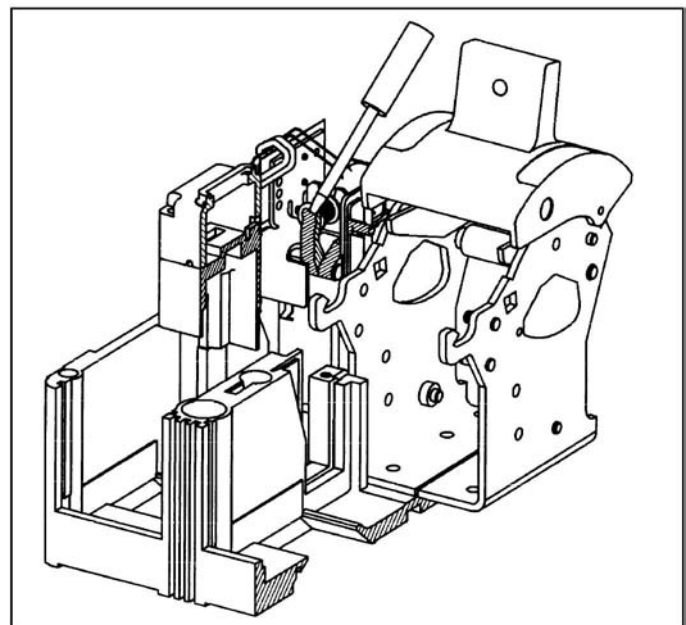

Figure 2-5 Testing Operation of Solenoid Plunger.
- b. Position a small flat-blade screwdriver (Figure 2-5) under the head of the solenoid plunger. Pry the plunger free from the seated position and check the circuit breaker trips.